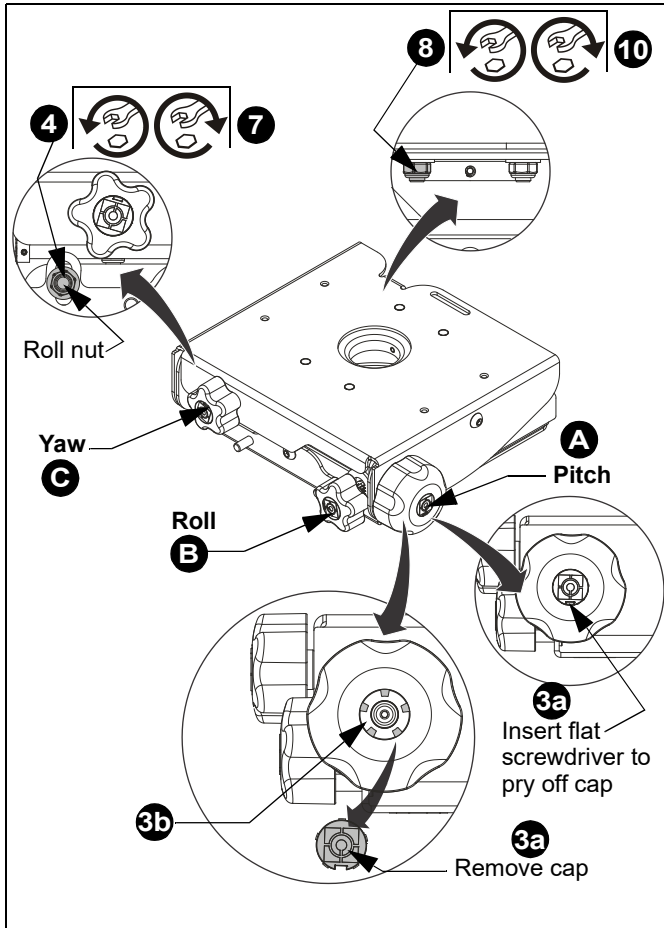

Figure 4
1. Turn **PITCH** knob (A) counterclockwise to pitch down. (See Figure 4)
2. Turn **PITCH** knob (A) clockwise to pitch up to 0°.
- **3b:** Insert pitch socket adapter (B) into knob
4. Loosen Roll nut (located immediately below and left of **YAW** knob [black nut on white mount, silver on black mount]). (See Figure 4)
8. Loosen Yaw nut (black nut on white mount, silver on black mount) accessible through back of mount. (See Figure 4)